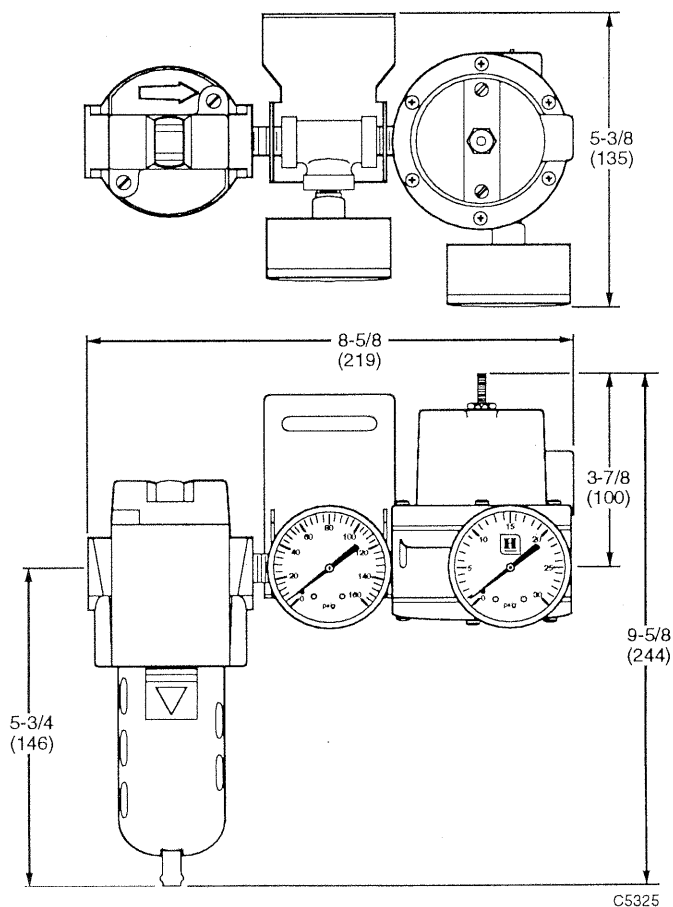

Fig. 1. PP902C and D Dimensions in Inches (Millimeters).
1. Ensure sufficient clearance around the unit to permit easy access for the pressure adjustment, and for the servicing and replacement of the filter cartridge. See Figure 1 for dimensions.